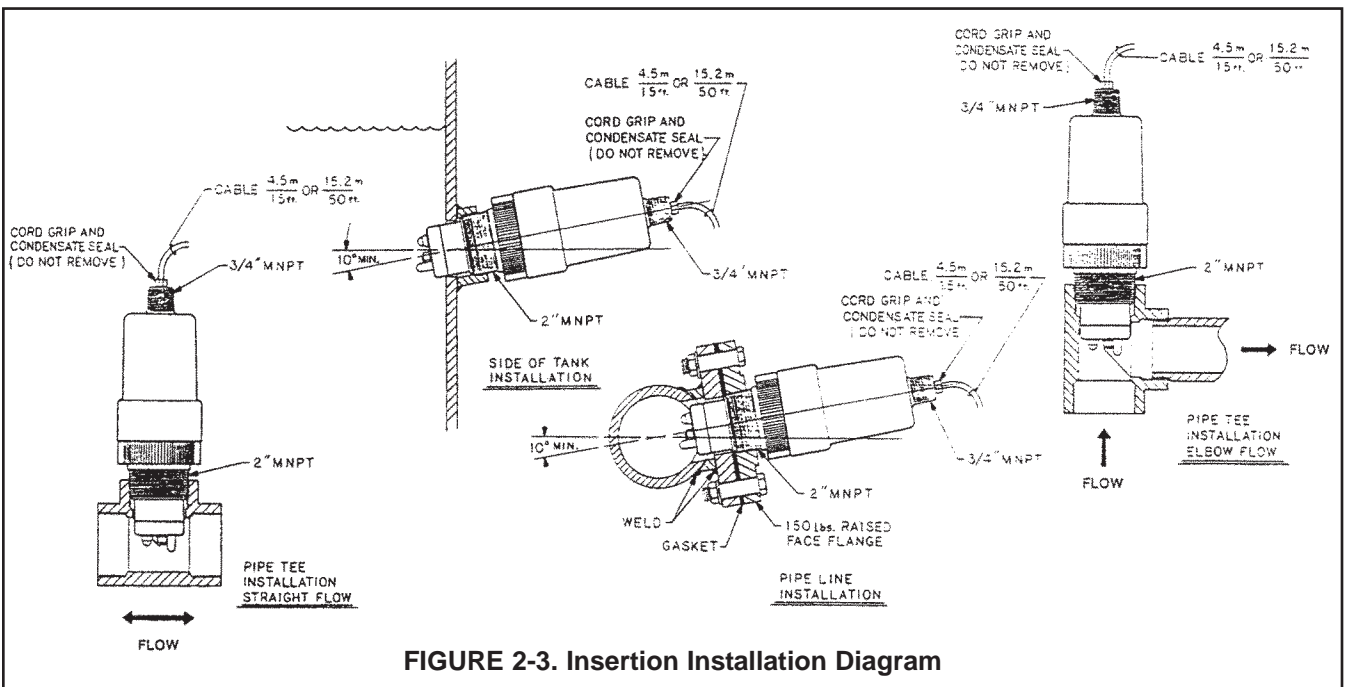

FIGURE 2-3. Insertion Installation Diagram
2.3 INSERTION INSTALLATION (Code 00). To install the sensor in the side of a tank, in a pipeline, or in a pipe "tee", proceed as follows (see Figure 2-3):
1. Use TEFLON tape on pipe joint, and install sensor as shown in Figure 2-3.